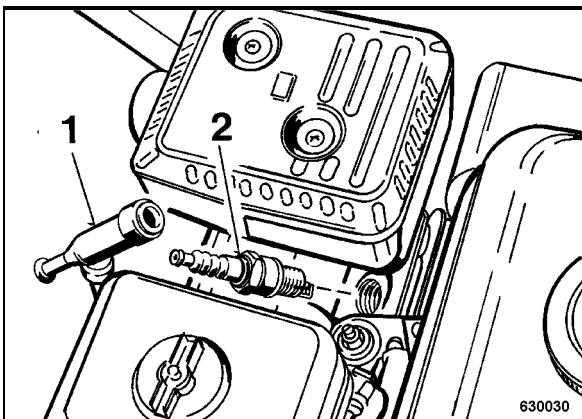

Fig. 35
- Pull spark plug socket 1 (Fig. 35) off and unscrew spark plug (2).